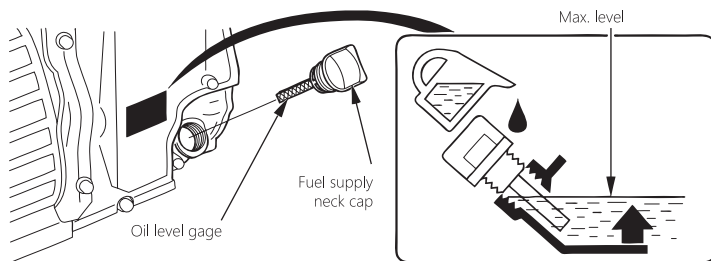

Fig. 3. Oil level checking
4.2. Check the oil level (Fig. 3)